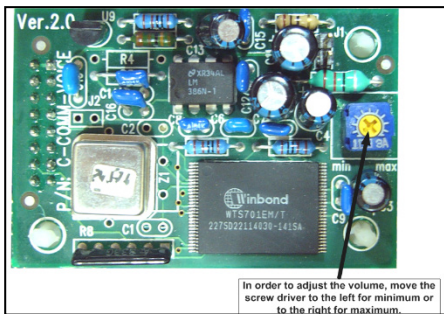

Figure 17: Volume Trimmer
4. Turn volume trimmer on voice card until required volume is reached (Figure 17) (Refer to Figure 1, page 11 to see the voice card location).